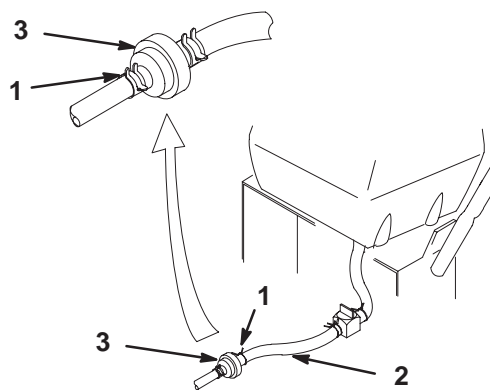

Figure 36
4. Squeeze the ends of the hose clamps together and slide them away from the filter (Fig. 36).
8. Check for fuel leaks and repair if needed (Fig. 36).